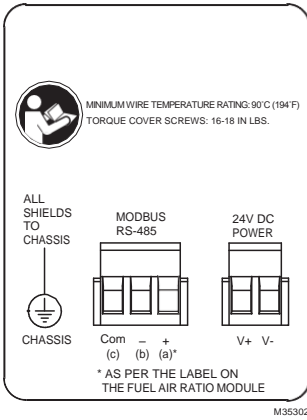

Fig. 4. Wiring terminals.
• All cover screws should be tightened to the specified torque. See Fig. 4.
Fig. 4 indicates each wiring terminal and Table 2 identifies each terminal's signal type and function.